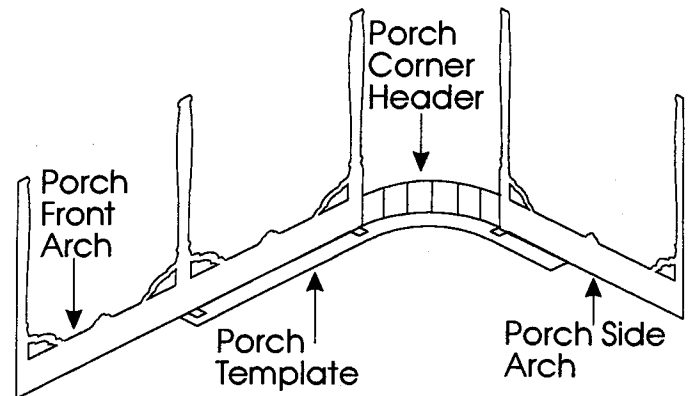

Figure 26
3. Set the assembly on edge with the posts pointed up. Tape the Porch Template into position with the 1/2"x1/2" notches centered on the Porch Front Arch Posts. Bend the porch corner around the template curve and tape to Porch Side Arch. Glue entire assembly together. Fig.26.